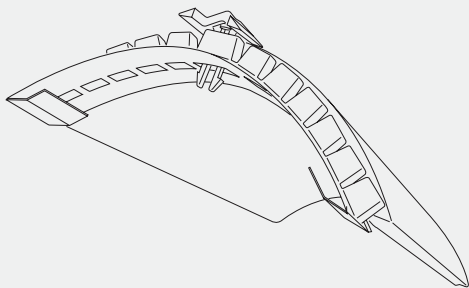

Fig. 62 – Fold in union tabs to suit capping
- 10 Select a hip union, union clamp and 75 x 4.8mm screw. Fit a union clamp into the central slot in the hip union and offer up the assembly into the open end of the hip tile so that it is trapped between the clamp and the union flange. Where the ends on the union overlap the edges of the hip tile, cut off or fold inward the excess length along the crease lines at either end (Fig. 62).